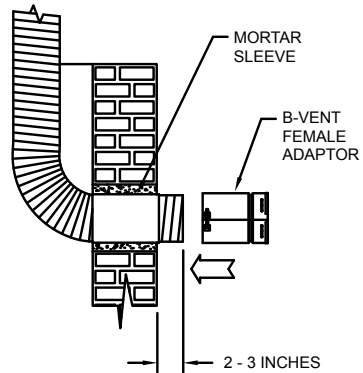

Figure 8
**Step 7.** The Flex Liner should extend at least 2 inches beyond the flange on the Mortar Sleeve. If Type B Gas Vent or the DuraConnect Flexible Vent Connector is to be used between the appliance and the chimney liner, slide the Flex Coupling or B-Vent Female Adaptor over the Flex Pipe, and secure with either a nut & bolt or sheet metal screw, as appropriate. Refer to **Figure 8**. If a single-wall galvanized steel Vent Connector is to be used between the appliance and the chimney liner, attach the Flex Coupling or B-Vent Female Adaptor to the Flex Liner. Crimp the end of the Vent Connector and attach to the Flex Coupling or B-Vent Female Adaptor.